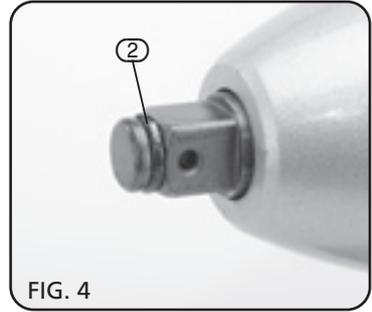

FIG. 4
9.1 INSTALLING AND REMOVING SOCKETS - FIG. 4